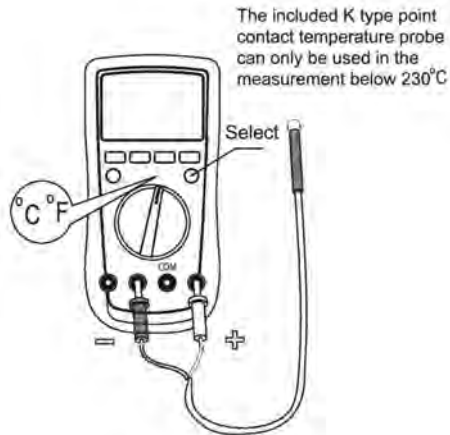

figure 9)
### H. Temperature Measurement (UT61B and UT61C only) (See figure 9)
2. Insert the temperature probe into the input terminal as shown on the figure 9.